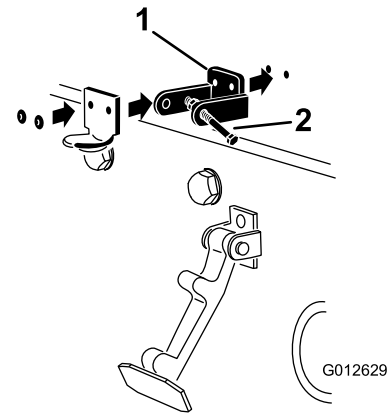

Figure 4
4. Align the holes in the CE lock bracket and the hood-latch bracket with the holes in the hood (Figure 4).
6. Rivet the brackets and the washers to the hood (Figure 4).